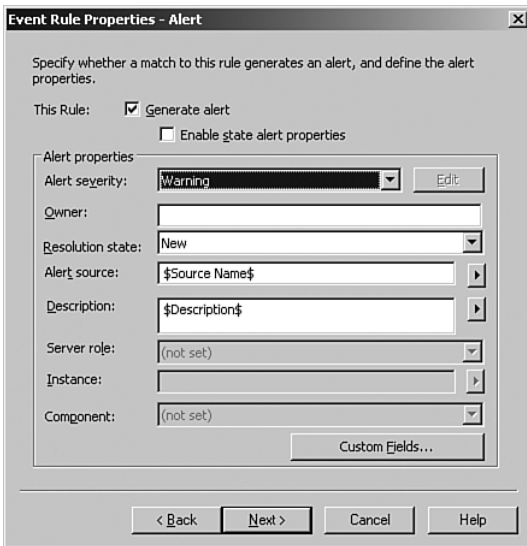

FIGURE 14.9 The Alert screen of an event rule.
- The wizard proceeds to the Alert Event Rule Properties screen shown in Figure 14.9. On this screen we can configure a rule to generate an alert. Checking the Generate Alert box specifies that MOM generate an alert when Event 6009 is found in the Application event log. This screen allows us to configure alert properties including the severity, owner, initial resolution state, alert source, and description. In this example, we will choose Warning as our alert severity value.